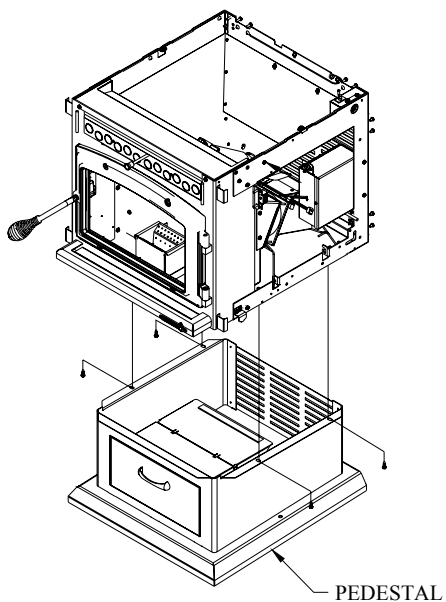

Figure 7
- 1- Secure the stove to the pedestal with the 4 screws supplied.(Figure 7)
(refer to Figure 7 & 8)